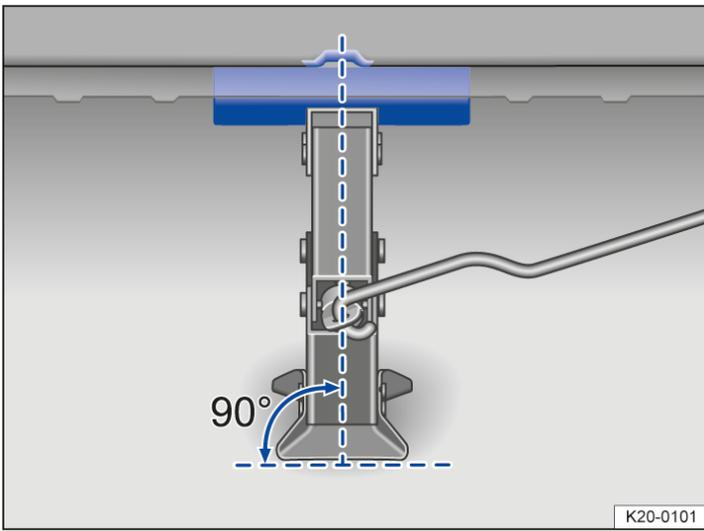
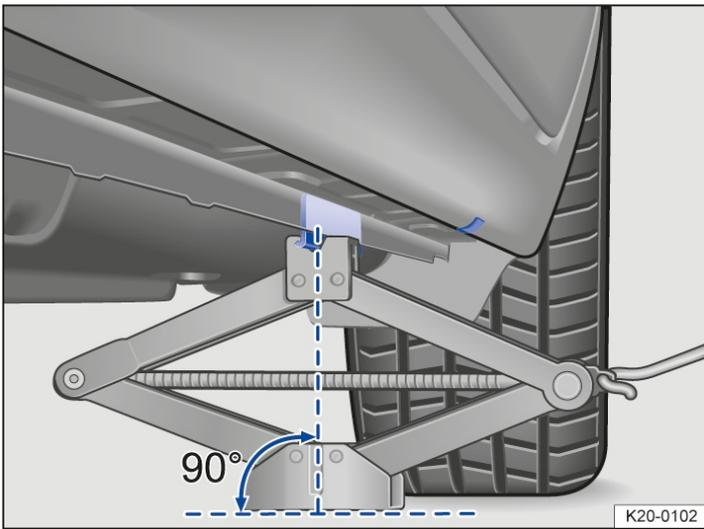
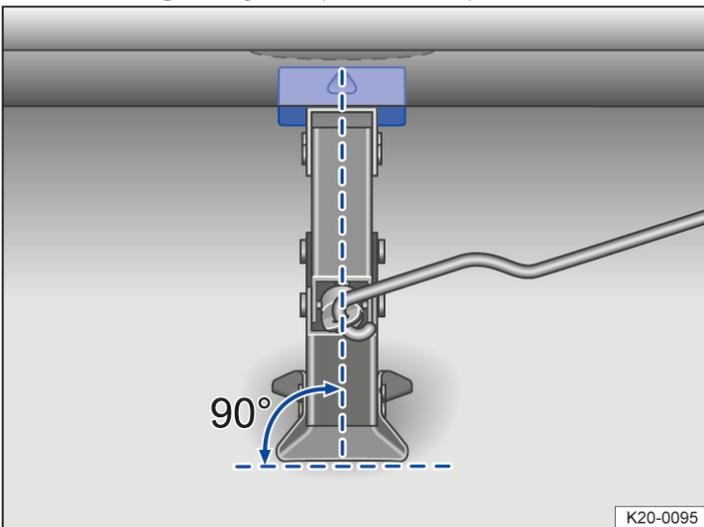
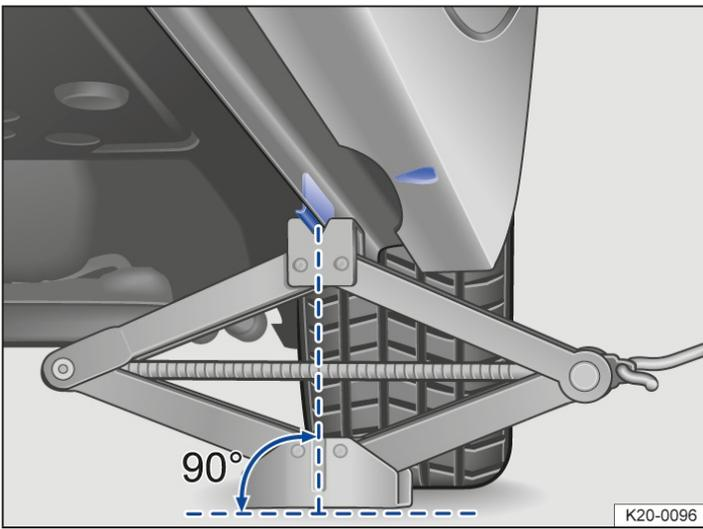

Fig. 3 Correct jack setup (variant 1).
Fig. 4 Jack positioned on the left side of the vehicle at the rear (variant 1).
Fig. 5 Correct jack setup (variant 2).
Fig. 6 Jack positioned on the left side of the vehicle at the rear (variant 2).
12. Make sure the entire base of the jack is seated securely on the ground and that the base of the jack is located exactly directly below the lift point → *fig. 3* and → *fig. 4* or → *fig. 5* and → *fig. 6*.
13. Straighten out the vehicle jack and continue raising the bracket on the top of the jack until the bracket is positioned on the vehicle lift point under the vehicle → *fig. 4* or → *fig. 6*.